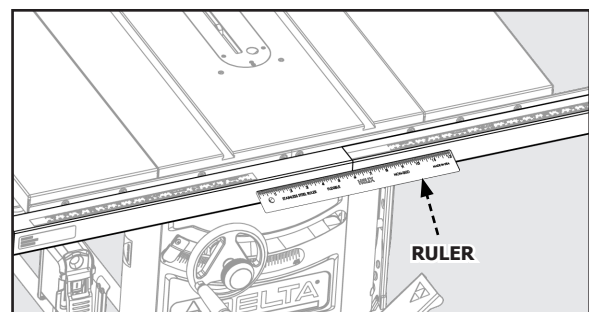
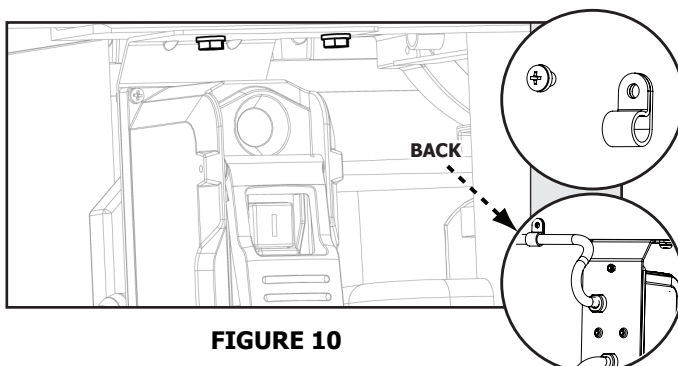

FIGURE 9C
FIGURE 10
3. Align the two holes in the switch box bracket with the holes underneath the front rail, shown in Figure 10, located on the left side of the saw. Secure the power control box to the front rail using two 1/4-20 x 1/2-inch hex head cap screws and 1/4-inch spring washers. Use a ruler to check that both left and right fence guides are parallel. See Figure 9C.
4. Fix the hanging power cord at rear side of front rail by wire clip and M5 x 6mm round head cross screw. See Figure 10.